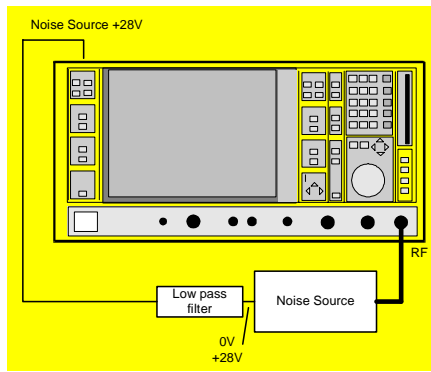

Fig. 1-1 Preparation for calibration
- Connect the noise source to the RF input of the spectrum analyzer. (see Fig. 1-1)